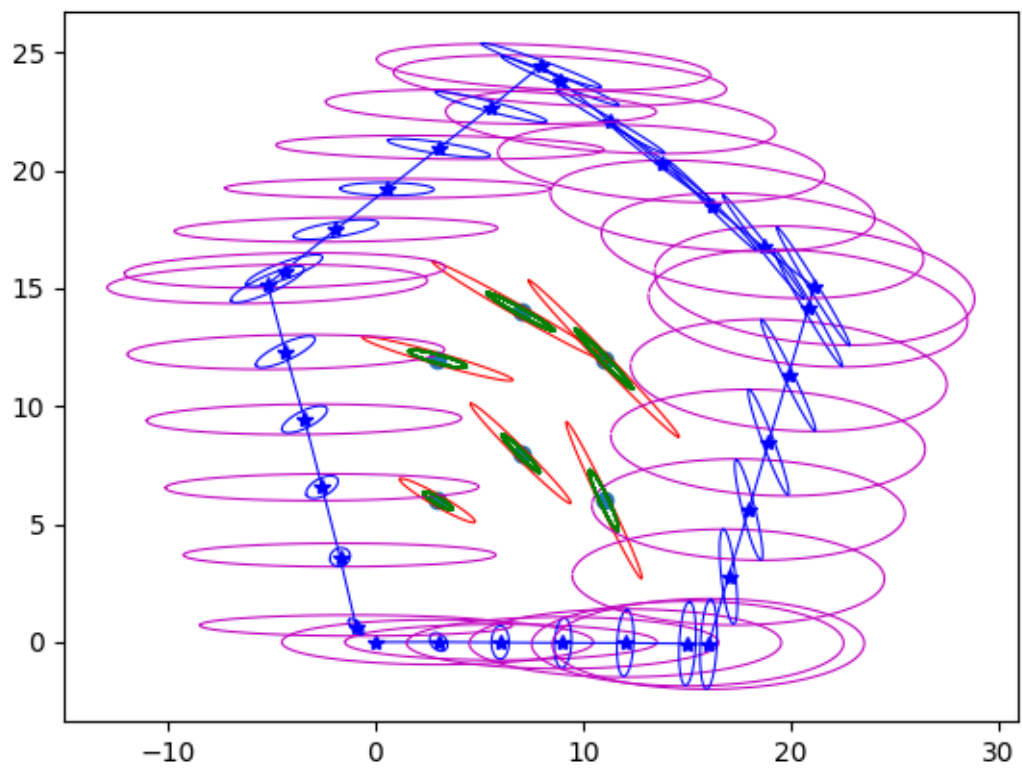

Figure 4: Increasing the standard deviation of robot x position by a factor of 10
1. When the standard deviation in x position of the robot is increased by a factor of 10 the co variance circle greatly increases in the x direction as seen in the figure 4.